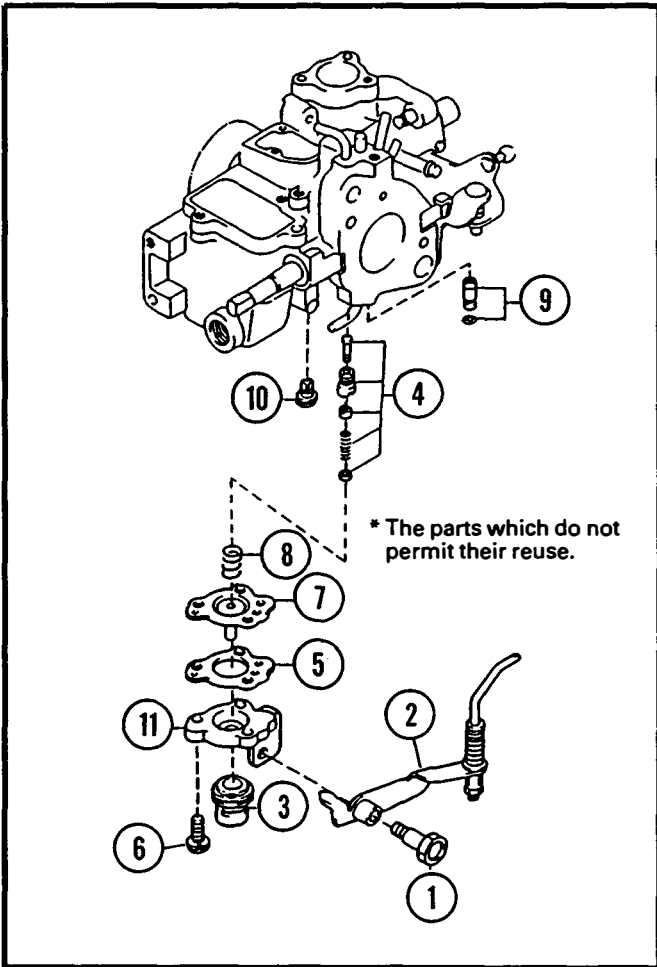

Figure 14.
1. Remove acceleration pump lever pivot bolt, and pivot arm. See Figure 14.
2. Remove diaphragm cover mounting bolts and disassemble diaphragm cover. See Figure 14.
3. Remove gasket, diaphragm, and spring. See Figure 14.
4. Remove discharge check valve, inlet check valve, and power valve. See Figure 14.
1. Assemble the power valve, check valve and discharge check valve. See Figure 14.
2. Assemble the spring, diaphragm and gasket. See Figure 14.
3. Assemble the boot and diaphragm cover. See Figure 14.
4. Connect the acceleration pump lever, tighten the pivot bolt. See Figure 14.